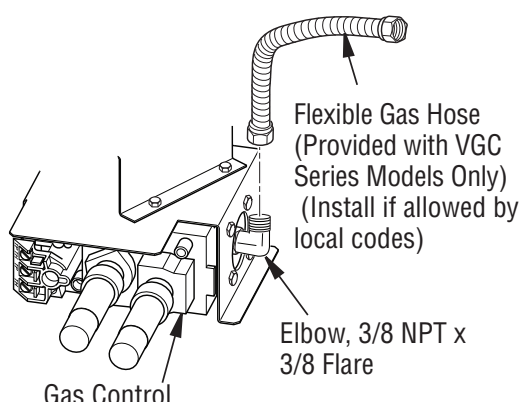

Figure 11 - Attaching Flexible Gas Hose to Appliance Gas Regulator
1. Apply pipe joint sealant lightly to male threads of the 1/2 NPT side of gas fitting elbow (provided) and connect to inlet side of gas control. Remove gas fitting from flexible gas hose (provided) before connecting to elbow (see *Figure 11*).
4. Disconnect gas line from appliance base as shown in Figure 11, Page 13.